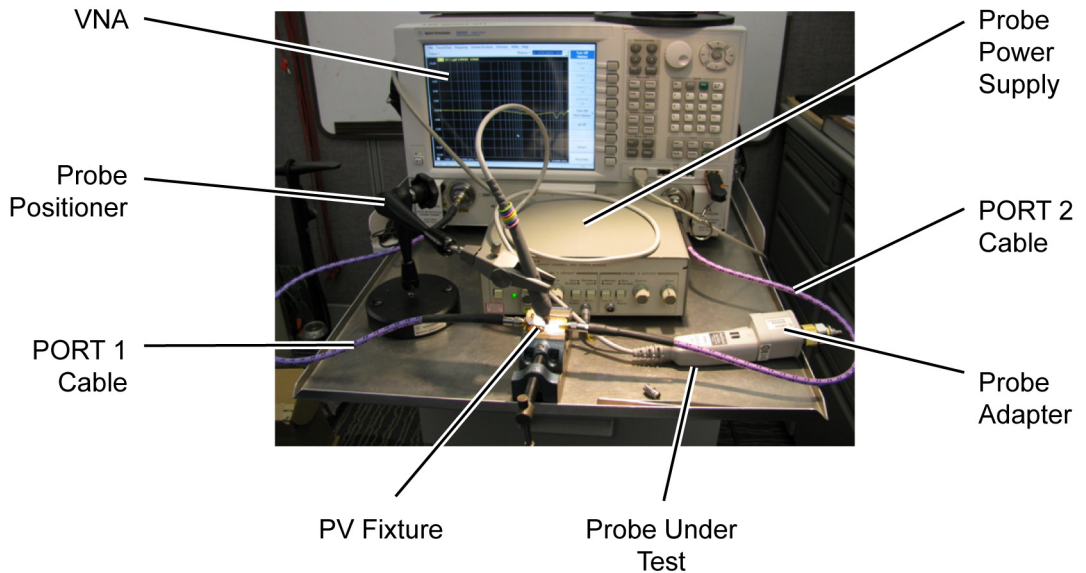

Figure 46 Measurement setup for  $V_{in}$
- f** If available, use the N2787A 3D Probe Positioner to position the probe straight up and down (perpendicular) to the PV Fixture as shown in Figure 46.